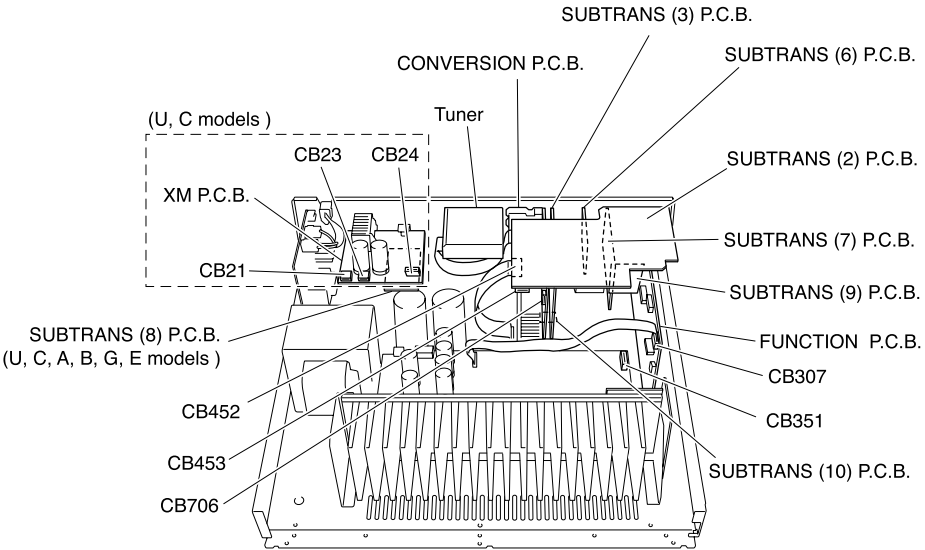

Fig. 4
6. Removal of FUNCTION, SUBTRANS (2), (3), (6), (7), (8) (U, C, A, B, G, E models), (9), (10), CONVERSION, XM (U, C models) P.C.B.s and Tuner
- a. Remove CB21, CB23, CB24 (U, C models), CB307, CB351, CB452, CB453 and CB706. (Fig. 4)
- c. Remove FUNCTION, SUBTRANS (2), (3), (6), (7), (8) (U, C, A, B, G, E models), (9), (10), CONVERSION, XM (U, C models) P.C.B.s and the Tuner. (Fig. 4)
6. FUNCTION, SUBTRANS (2), (3), (6), (7), (9), (10), CONVERSION P.C.B., TUNERの外し方
- a. CB307, CB351, CB452, CB453, CB706を外します。(Fig. 4)
- c. FUNCTION, SUBTRANS (2), (3), (6)～(10), CONVERSION P.C.B., TUNERを取り外します。(Fig. 4)